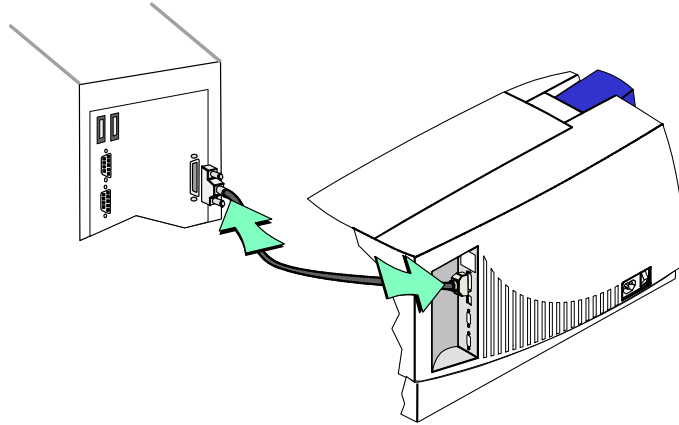

Figure 7-6: Connect the parallel port cable
- 2 Attach the other end of the cable to the parallel port on the PC (see Figure 7-6). Press the cable connector all the way onto the port, and then turn the posts to secure the cable to the PC.